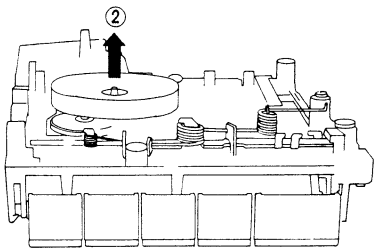

Fig. 6
- 2. Pull out the flywheel ass'y in the direction of arrow ②. (See Fig. 6)